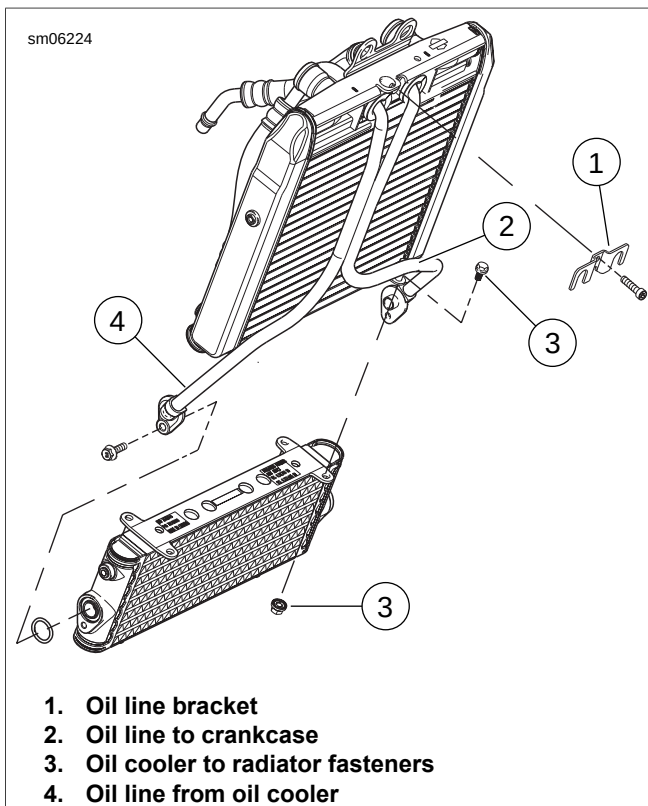

Figure 5-25. Radiator and Oil Cooler Assembly
1. See Figure 5-25. Install oil cooler to engine coolant radiator. Tighten front and rear fasteners (3) to 10-12 Nm (89-106 in-lbs).
- b. Install radiator oil line bracket (1) over the oil lines and tighten fastener to 8-10 Nm (71-88 in-lbs).